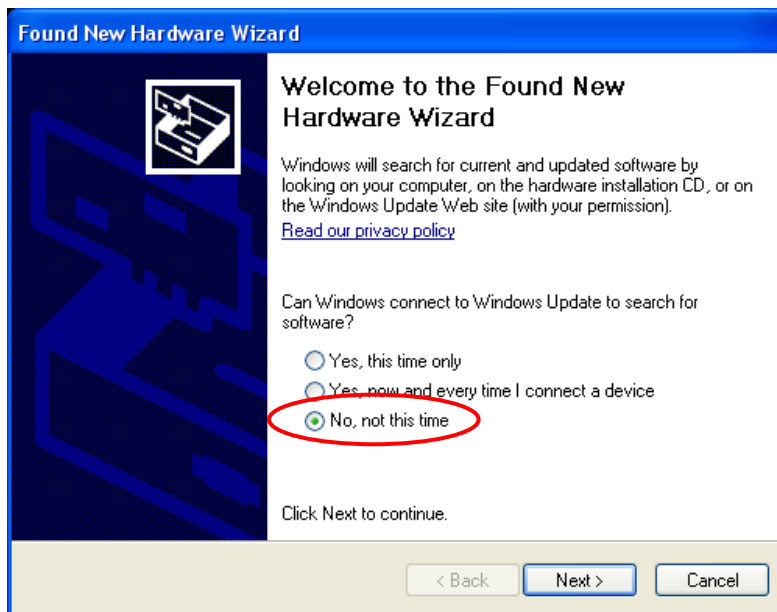

Figure 7
9. Select **No, not this time** to not search the Windows® Update website. Then select the **Next >** button (Figure 7).